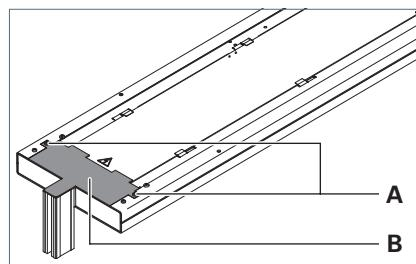

Fig. 1: Removing the cover
- ▶ Unscrew the screw **A** from the cover **B**, see Fig. 1.